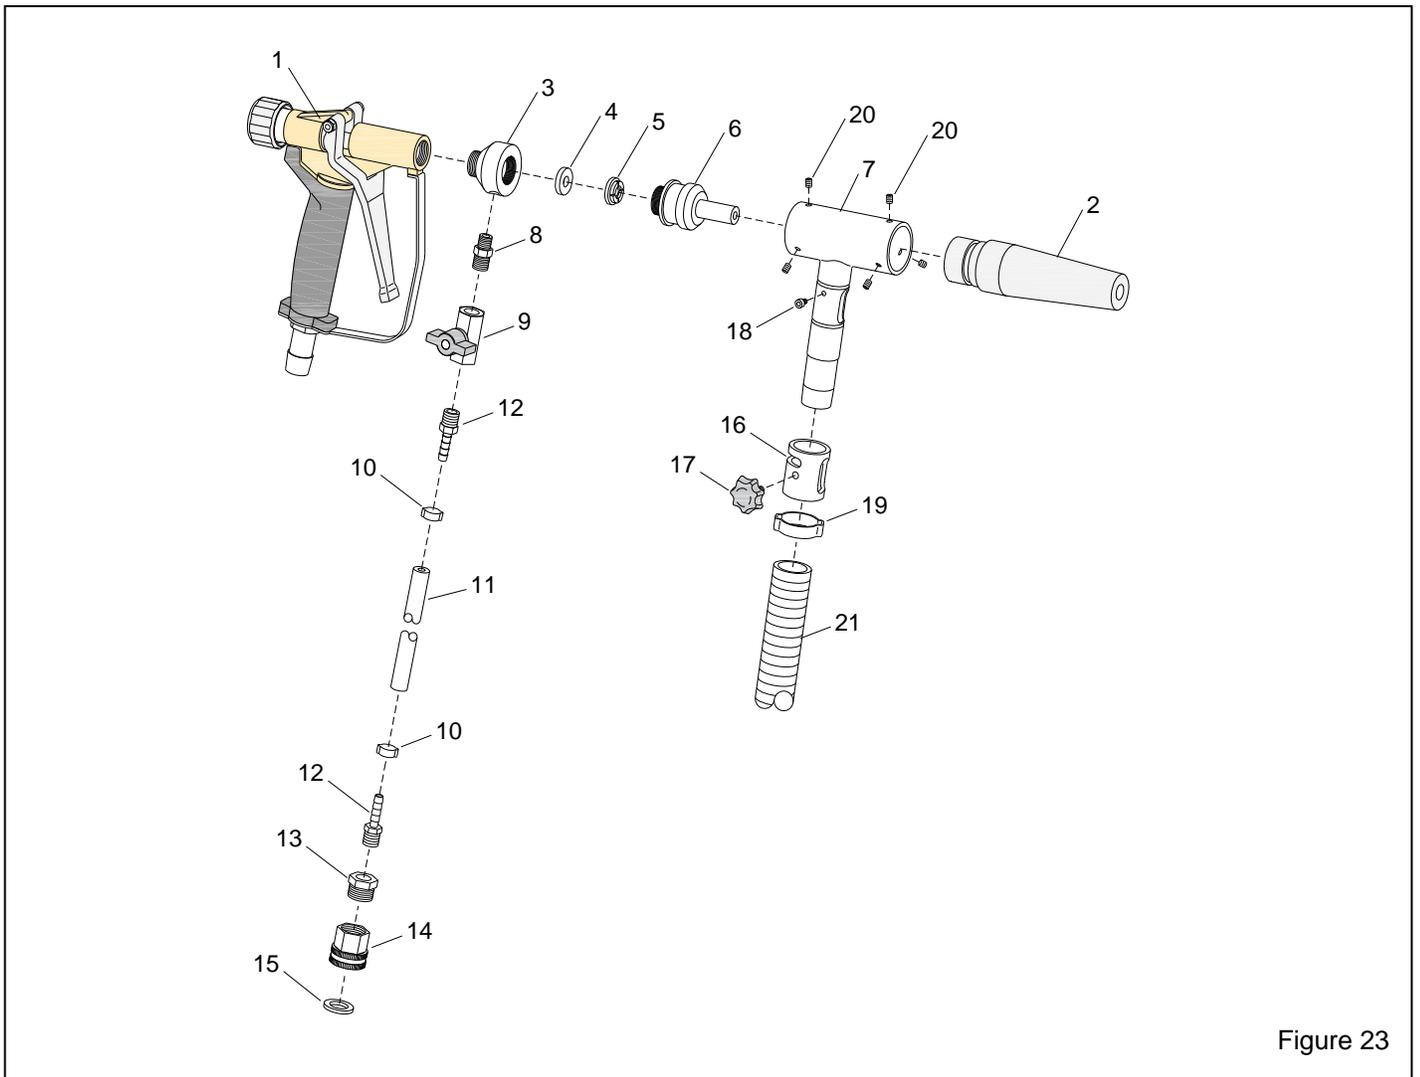

Figure 23
Refer to Section 9.5, Figure 23 for additional items used with the H2O Model.
9.5 Blast Gun Assembly, H2O Model – Figure 23